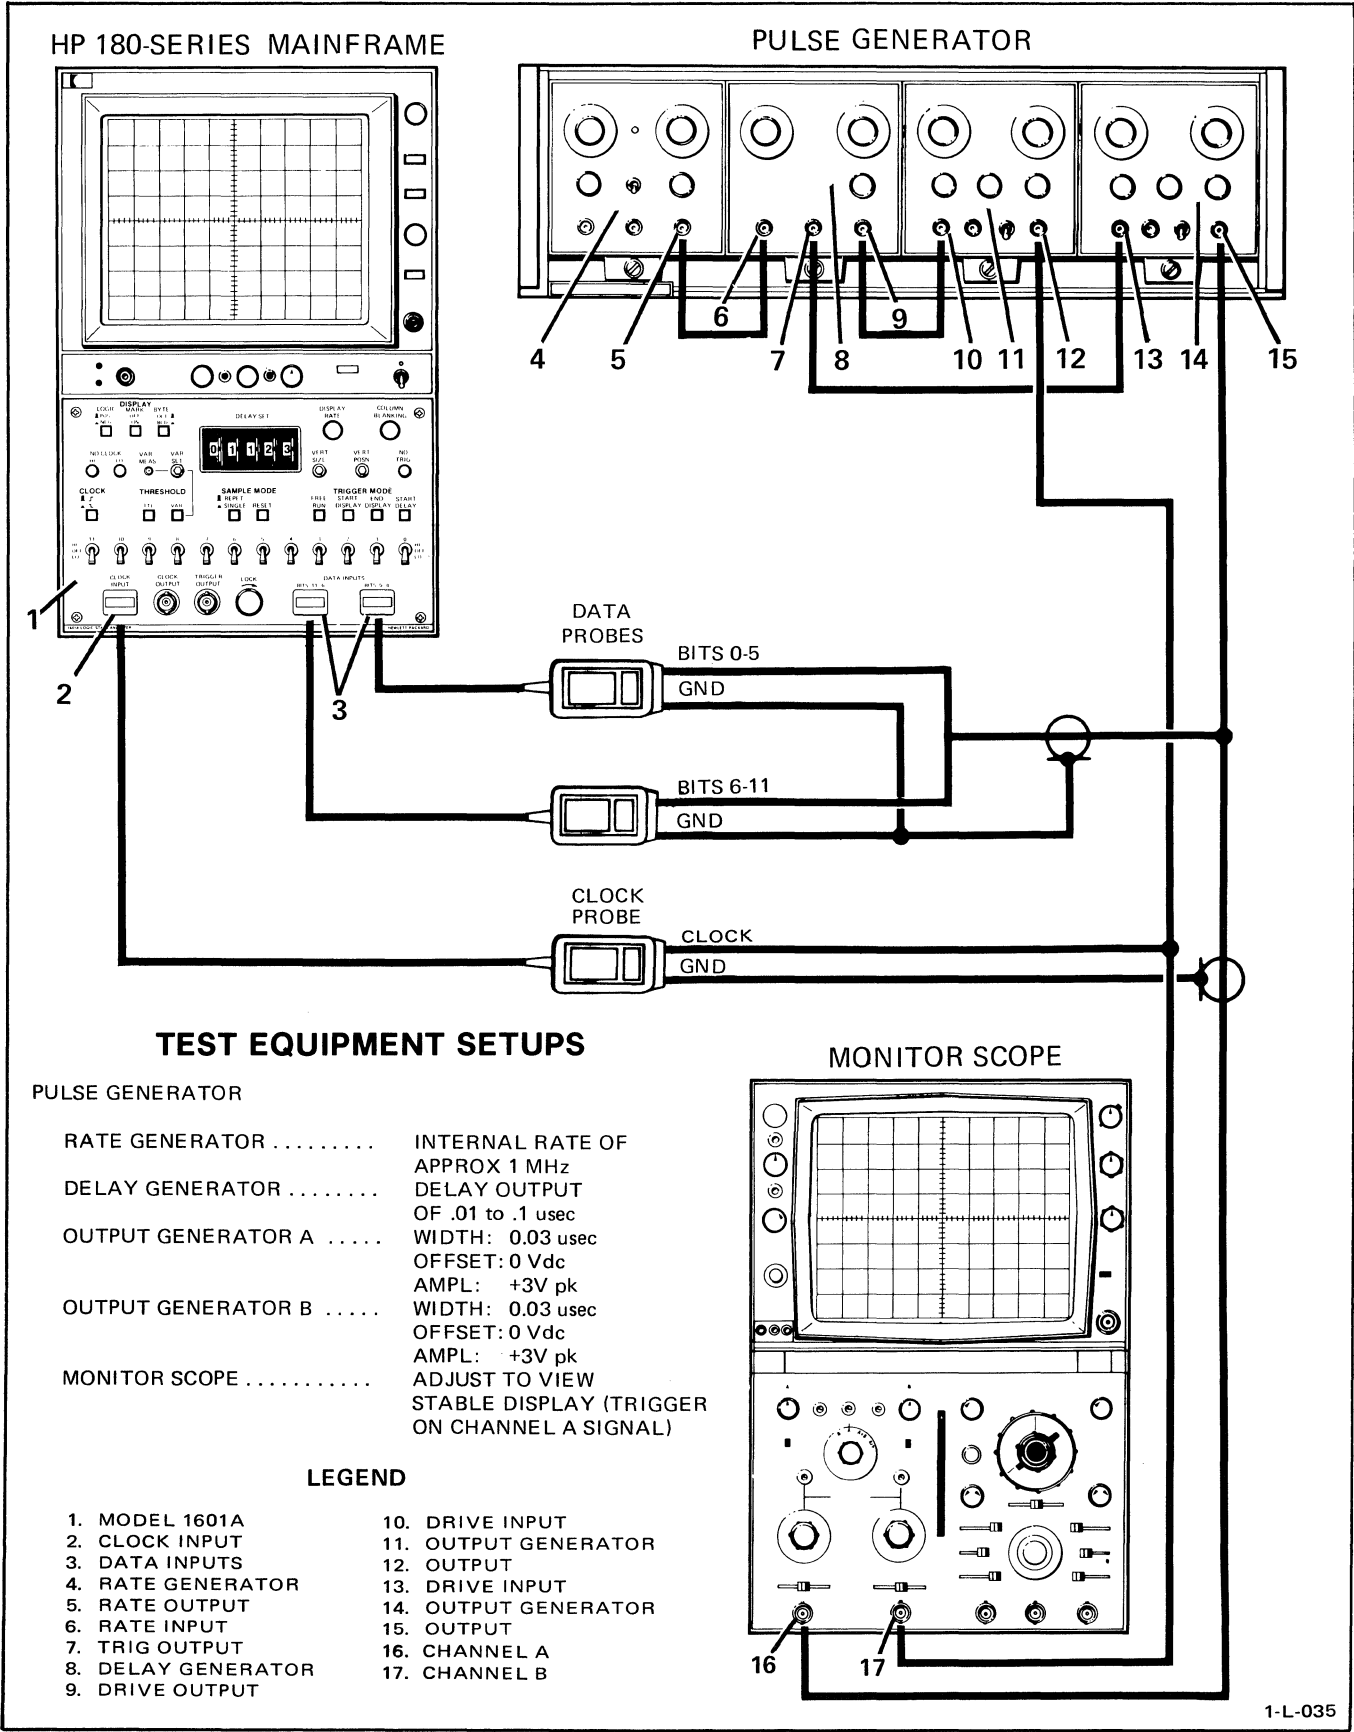

Figure 5-1. Operational Check Test Setup
a. Refer to figure 5-1 for recommended test equipment setup.